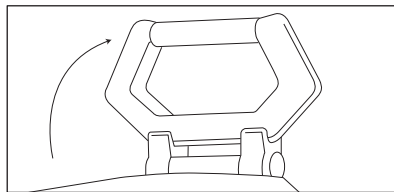

Fig. 1
1. Attach handle support. (Fig. 1)